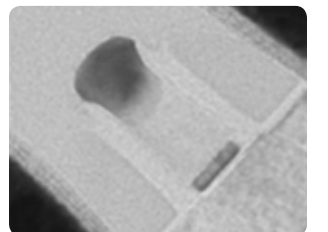

Figure 2. TEM of a 32nm gate-first HKMG device. Image courtesy of GLOBALFOUNDRIES
A. Both technologies utilize the wave-like nature of light. The thin-film stacks are designed and integrated in such a way that each layer alters both reflected light as well as the light passing through it. Working in concert, the layers have the combined effect of changing the display's overall visual appearance as desired. In the case of anti-reflective coatings, such cooperation among the layers is called destructive interference, which means the reflected light's intensity is decreased in the visual range. In the case of invisible ITO, the film stacks are designed to achieve a light interference that produces a miniscule visual difference between the zones with conductive ITO and without conductive ITO. This difference is indistinguishable to the human eye, both in intensity and hue. (See figure 2.)
Figure 2. Invisible ITO for projective capacitive touch screen technology. Good index-matching is possible with thin ITO layers, resulting in the ability to produce "invisible" ITO electrodes. R_{ITO} (reflectance of ITO) and R_{Etch} (reflectance of etched area) refer to the fact that the ITO is partially etched for patterning, and in the etched area the structures become visible. There is a difference in the reflection of the ITO layer compared to the etched sections, and a key property for the ITO layer stack is the invisibility of the etched structures, both in transmission and reflection, for a uniform visual experience.
Strained silicon, for example, requires new epitaxial deposition steps, and high-k/metal gate technology (see figure 2) serves to reduce gate leakage while adding atomic layer deposition (ALD). The drive to 20nm and 14nm will add